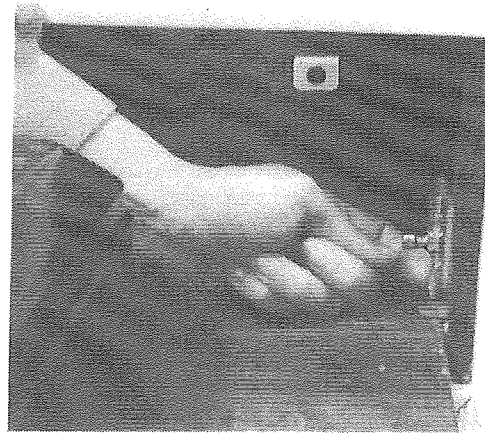

Figure 4
- D.** Lock the stove in position by securing it with the two bolt locks located on each rear side of the stove pad. See Figure 4.
32. Rotate the crankshaft handle clockwise slightly to relieve the tension on the crankshaft stop. Disengage the crankshaft stop; or on ratchet-equipped models, turn the control handle counterclockwise. See Figure 4.